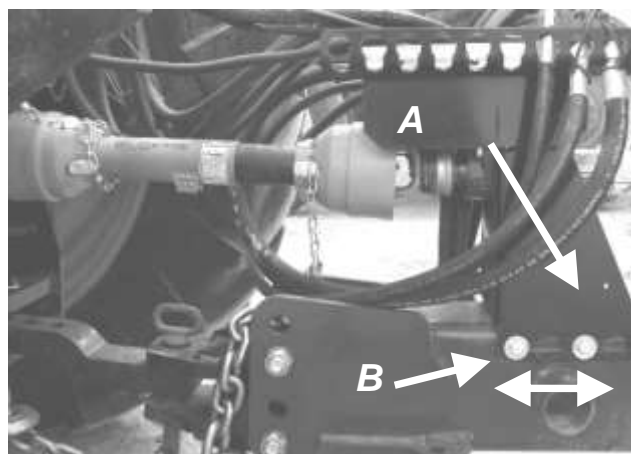

Figure 4
11. Couple the PTO to the tractor shaft. If the tractor shaft is too long to fully retract when the tractor is turning, it is possible to slide PTO support on the tongue [Figure 4, A], loosen nuts [Figure 4, B] and move PTO support on tongue.